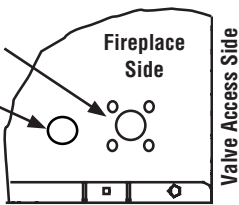

Figure 45
2. Install the junction box and receptacle outlet to the left of the valve in the front (for optional blower kit). See junction box and receptacle outlet as explained in steps 1-11 for (B) Electronic Wiring (on this page).
B. Electronic Wiring (See Figures 45 & 46)
3. Remove the junction box/outlet receptacle assembly by removing the securing screw at the front right corner of the unit. See **Figure 45**.
8. Wire and install the outlet receptacle to junction box. Next, install into the chosen corner of the control compartment as shown in **Figure 45**.
9. After the receptacle/junction box wiring is complete, install the field-provided metal junction box cover plate (see **Figure 45**).